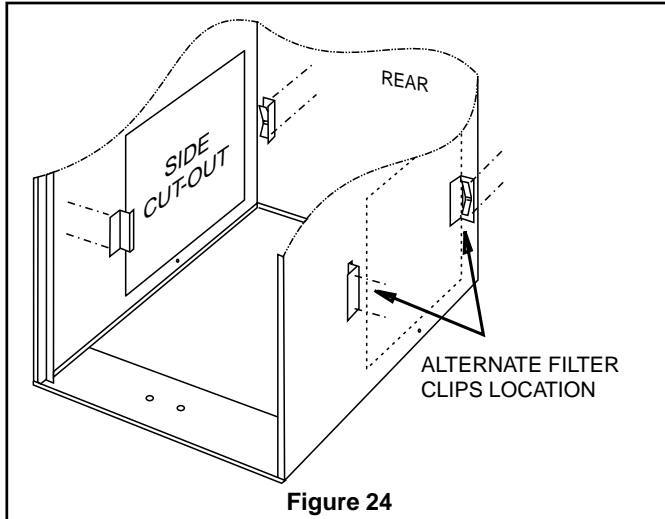

Figure 24
2. Install the clips in front and rear of the desired location using the screws provided. The filter clip with the leaf spring mounts in the rear of the cabinet. See Figure 24.